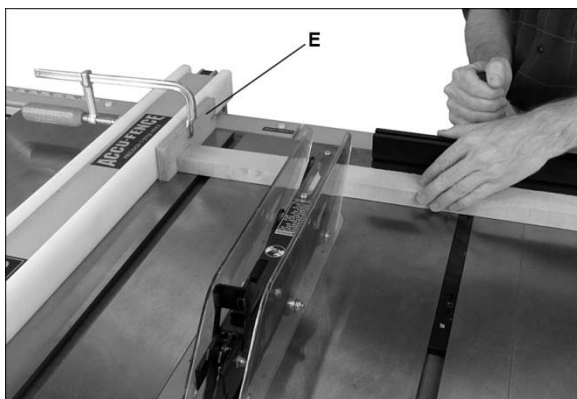

Figure 39
- Do not use the miter gauge and rip fence in the same operation unless provision is made by use of a facing board on the fence so as to allow the cutoff section of the workpiece to come free before the actual cut begins (See Figure 39).
Crosscutting should **never** be done freehand nor should the fence be used as an end stop unless an auxiliary block (E, Figure 39) is clamped to the front of the blade area such that the cutoff piece comes free of the block before cutting begins.